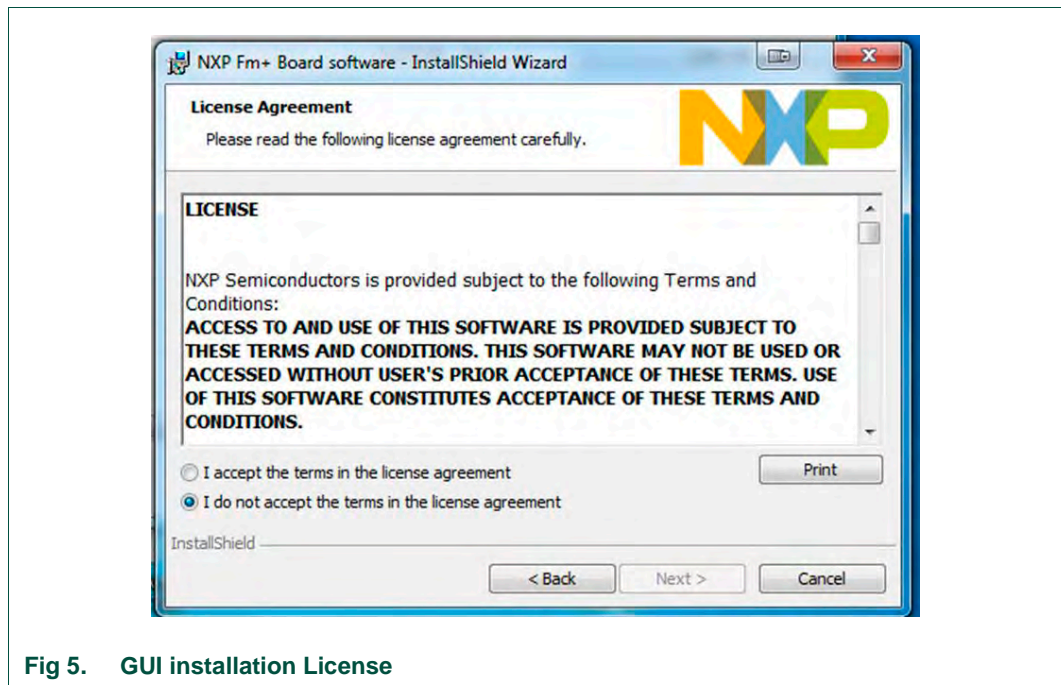

Fig 5. GUI installation License
5. Click the I accept radio button and next on the License screen, Fig 5.